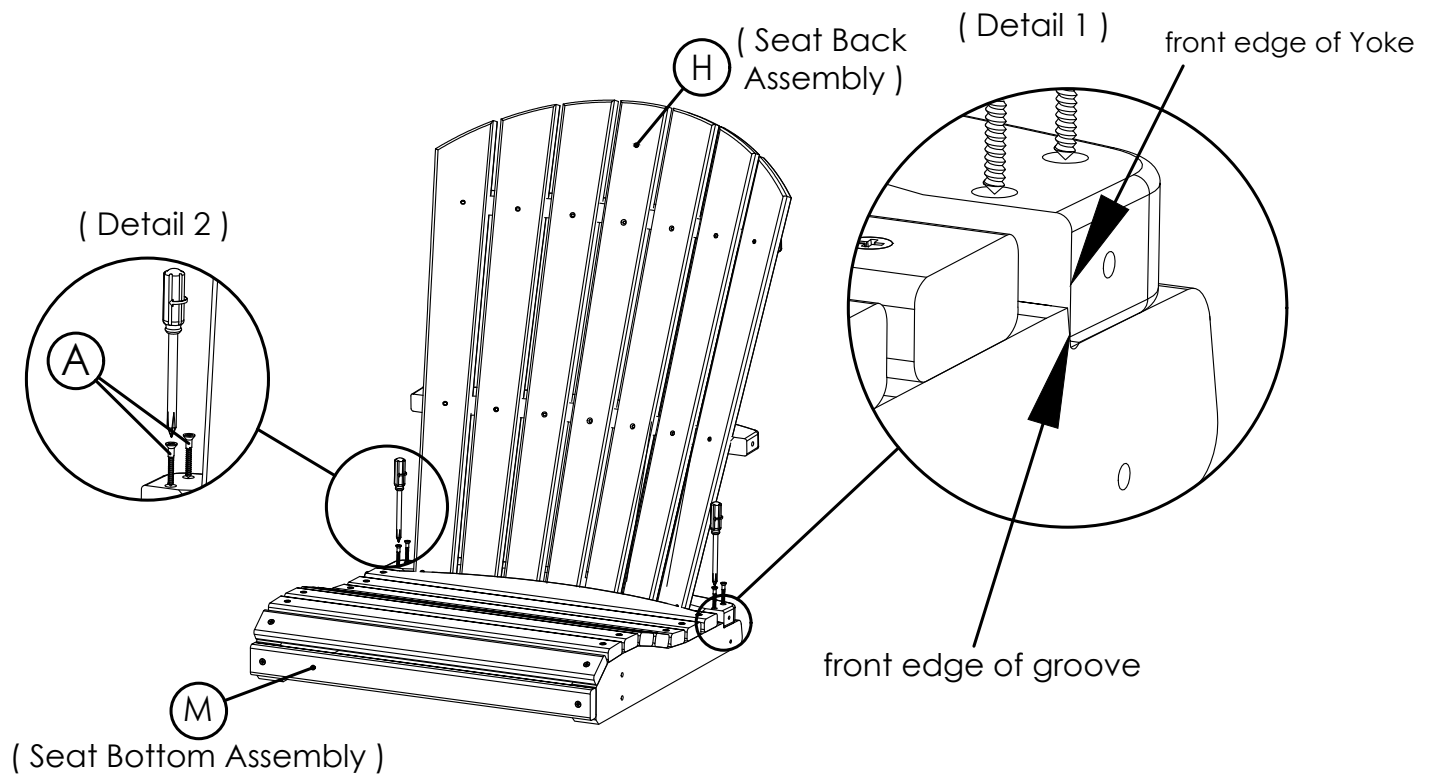

Figure 3
3a - Attach part (J), Right side front and rear leg assembly, to assembly from Figure 2 as shown in Figure 3, identification marks (FR) and (RR) facing inside towards the seat see detail 3, using (2) of joint connector bolts (B), (2) washers (C), (2) lock washers (D), (2) hex nuts (E), see detail 4 tighten bolts using an allen wrench and also an adjustable wrench follow the same instructions for left side front and rear leg assembly.
3b - Attach part (I), Left side front and rear leg and part (J), right arm leg assembly, to seat back assembly (H), as shown in Figure 3, see detail 5, using (3) of lag screws (F), tighten screws using and allen wrench. Follow the same instructions right side front and rear leg assembly.